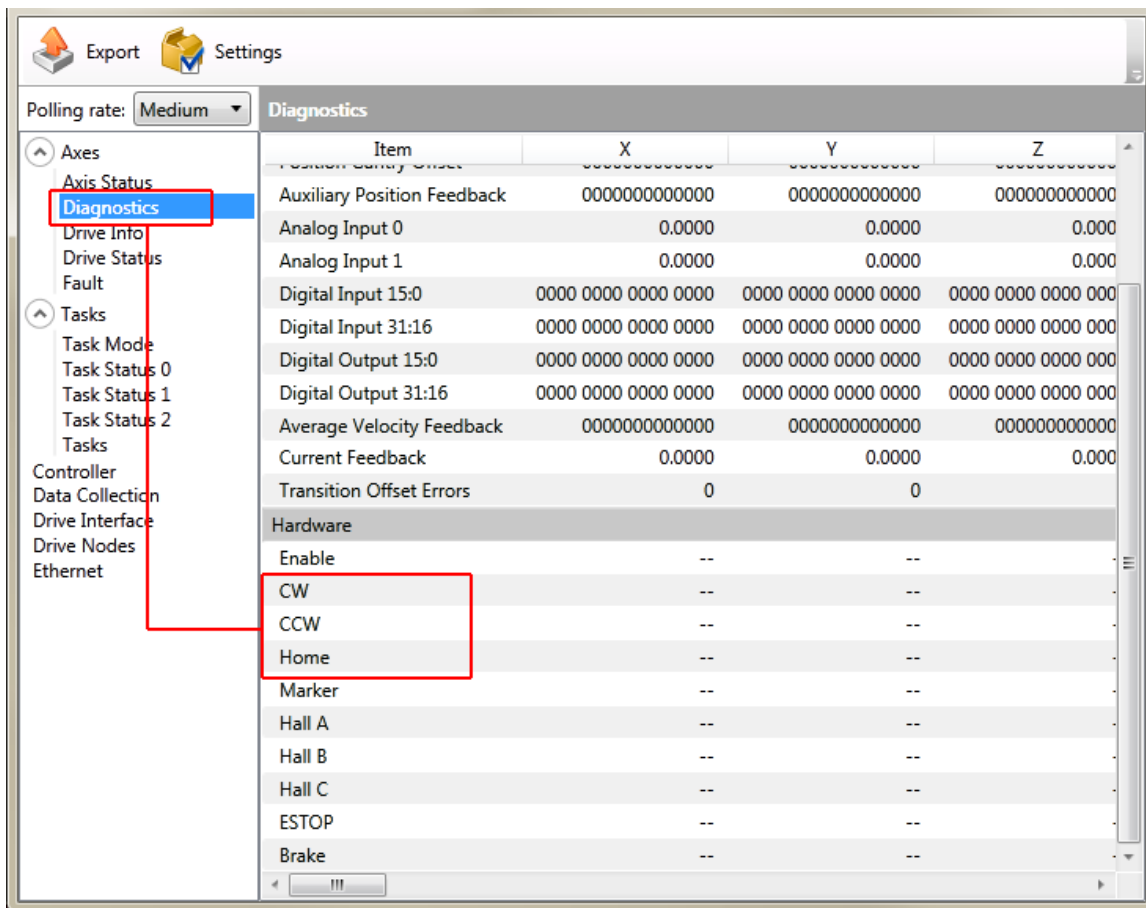

Figure 2-19: End of Travel and Home Limit Input Diagnostic Display
End of Travel (EOT) limits are required to define the end of the physical travel on linear axes. Positive or clockwise motion is stopped by the clockwise (CW) end of travel limit input. Negative or counterclockwise motion is stopped by the counterclockwise (CCW) end of travel limit input. The Home Limit switch can be parameter configured for use during the home cycle, however, the CW or CCW EOT limit is typically used instead. All of the end-of-travel limit inputs accept 0-5 VDC level signals. Limit directions are relative to the encoder polarity in the diagnostics display (refer to Figure 2-19).
If the EOT limits are reversed, you will be able to move further into a limit but be unable to move out. To correct this, swap the connections to the CW and CCW inputs at the Feedback connector or swap the CW and CCW limit functionality in the software using the EndOfTravelLimitSetup parameter. View the logic level of the EOT limit inputs in the Diagnostics display (shown in Figure 2-19).